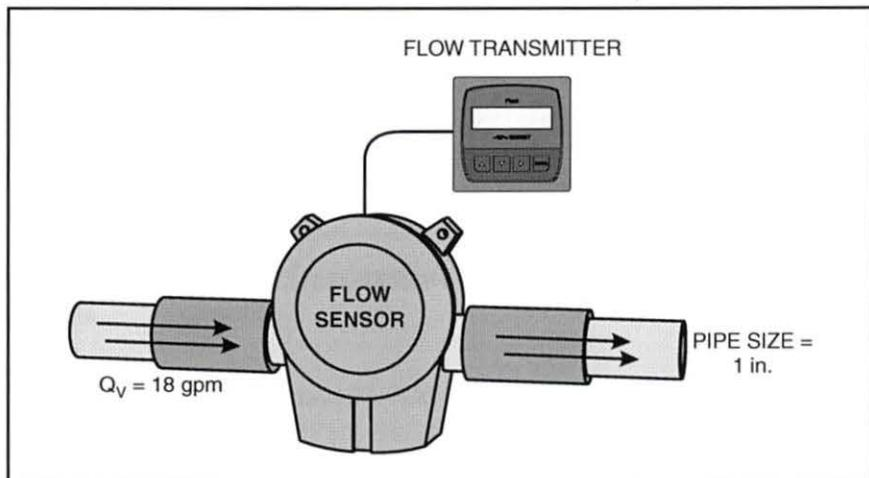

Figure 9. Volumetric Flow through a Pipe
3. Calculate the velocity (in ft/sec) of the liquid flowing through the pipe in figure 9 using the following information: